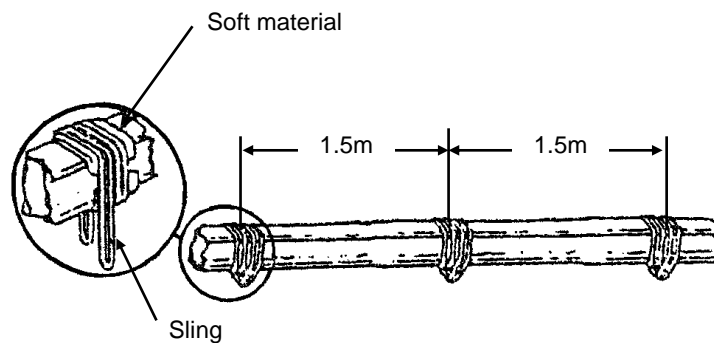

FIG 35.
- C. Place the slings over the beam and check that it is secure. Place some soft material over the beam to protect the sling. The slings must be 1 - 1½ metre apart. (Fig 35)